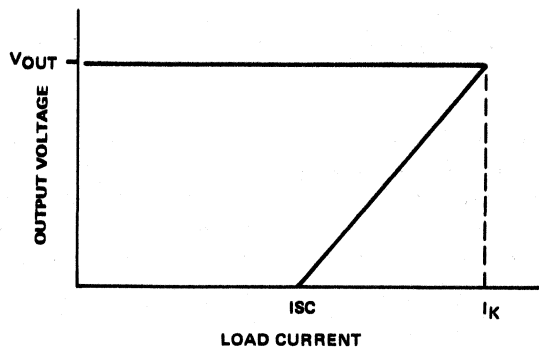

Figure 4.8. Fold-Back Current Limiting
**Fold-Back Current Limiting** – Fold-back current limiting is used primarily for high-current applications where the normal operation requirements of the regulator dictate the use of an external power transistor. The principle of fold-back current limiting provides limiting at a predetermined current  $I_K$  at which feedback reduces the available load current as the load continues to increase ( $R_L$  decreasing) or the output voltage decays. The voltage-current relation is illustrated in Figure 4.8.